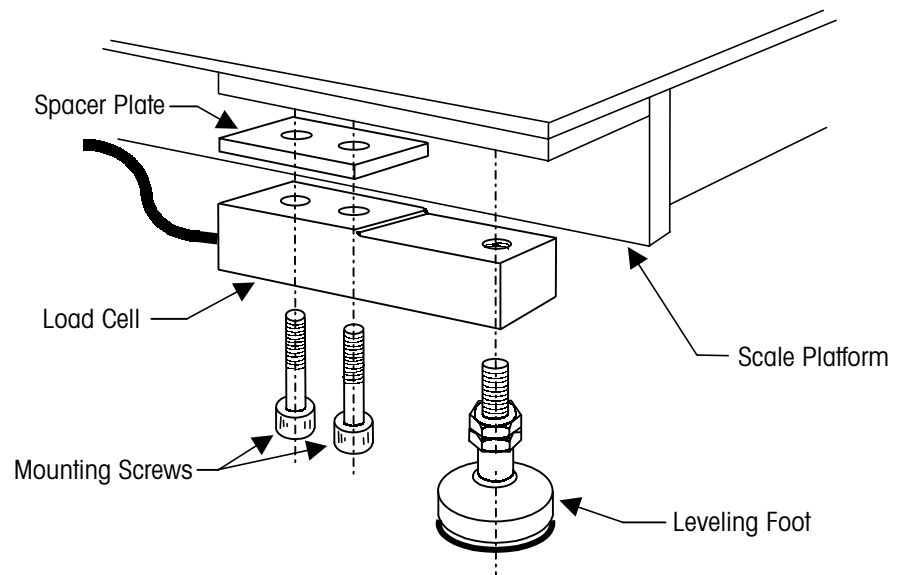

Figure 5-4: Load Cell Mounting
7. The load cells are fastened to the platform using two 1/2-13 UNC socket head cap screws (see Figure 5-4). Remove the two load cell mounting screws with a 3/8-inch hex Allen socket wrench, retaining the screws for reinstallation. Lift the load cell and spacer plate from the mounting surface.